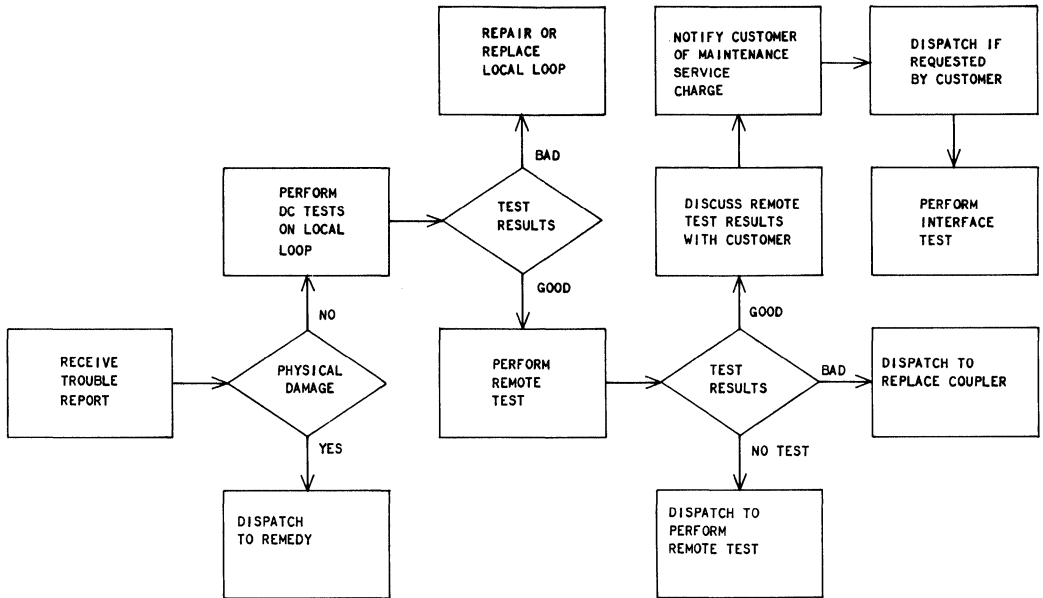

Fig. 15—Basic Activities Prior to Dispatching Employee
5.05 The PSC must analyze the information provided by the customer to determine if a trouble condition does exist and the most probable cause. Available tests (ie, normal dc loop test and remote test of coupler) should be performed to determine if a telco employee must be dispatched to customer premises. The conditions which could warrant a maintenance visit and efforts which lead to each are shown in Fig. 15.
5.06 On a maintenance visit, perform the tests or evaluations to isolate and clear the trouble within the station as directed by the PSC. Begin with the steps shown in Fig. 15 when the test results and analysis received from the PSC lead to that particular activity. If a trouble report is not available or if the report is inconclusive, follow